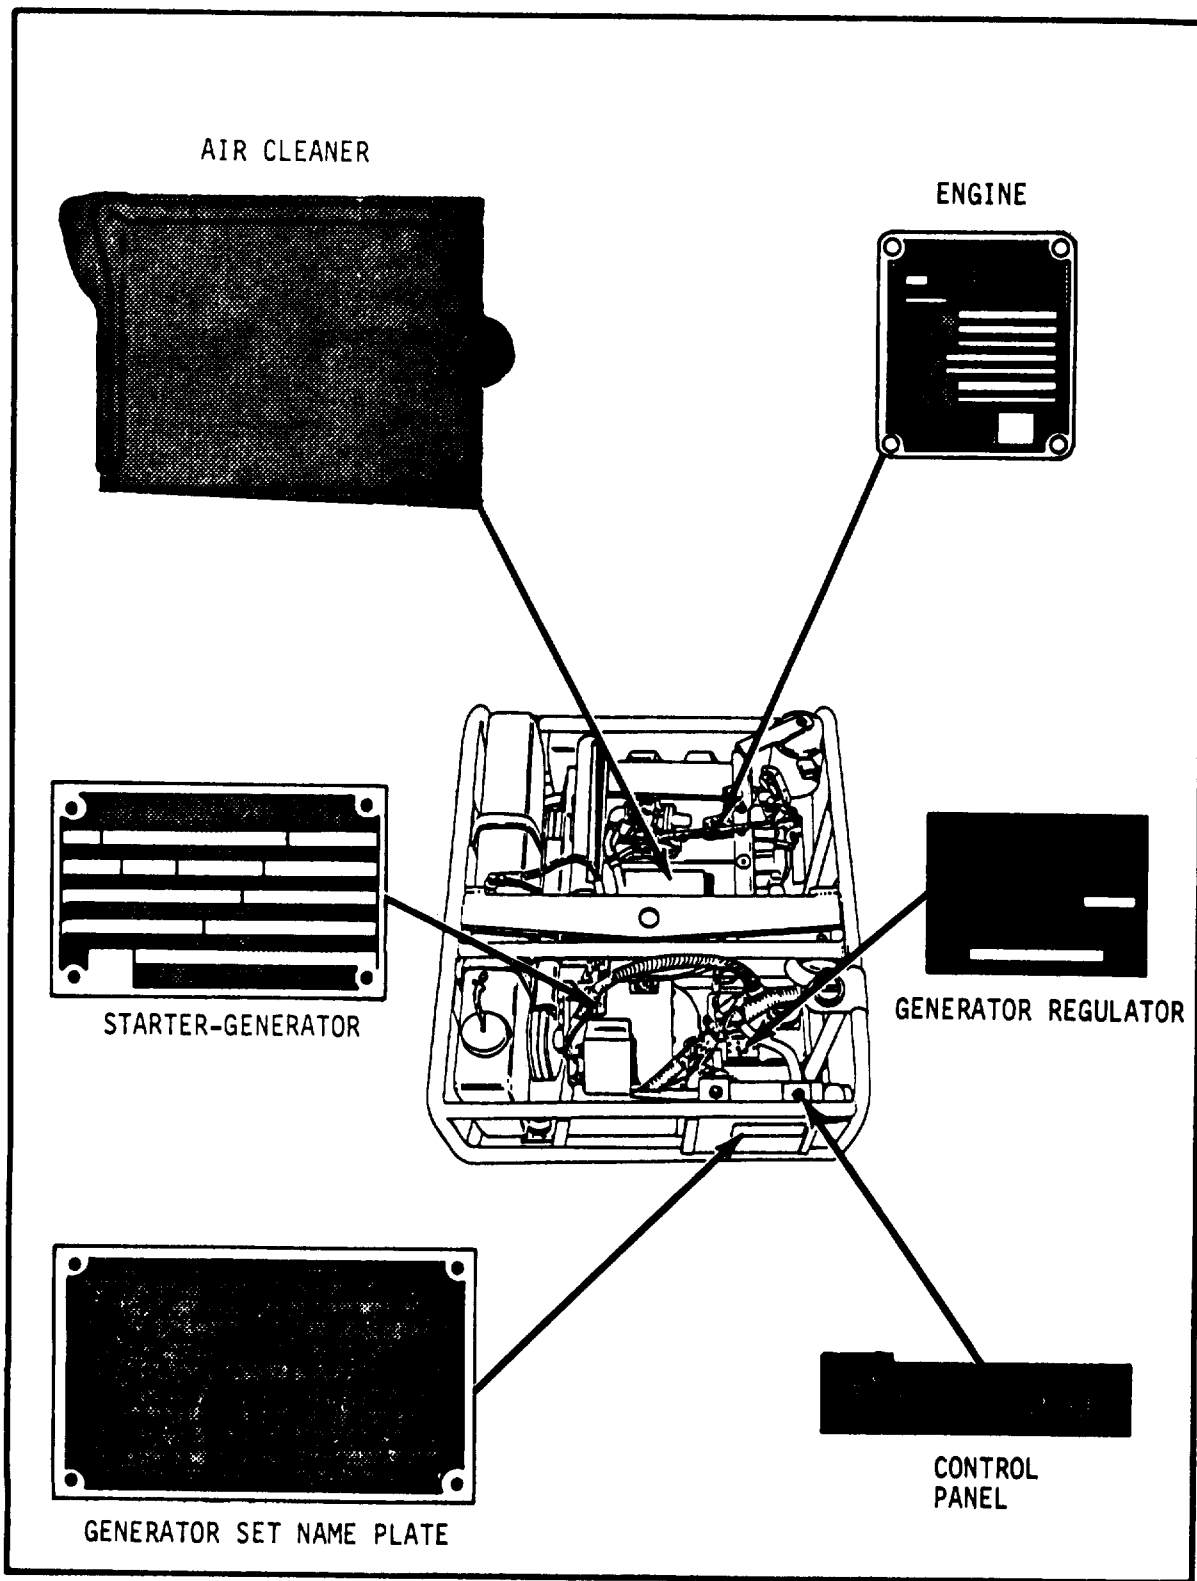

Figure 1-5. Identification plates and signs.
1-7. Identification Plates and Signs (fig. 1-5 or 1-5.1).
a. General. Figures 1-5 and 1-5.1 locate and illustrate the identification plates and signs used on the major components of the generator set.